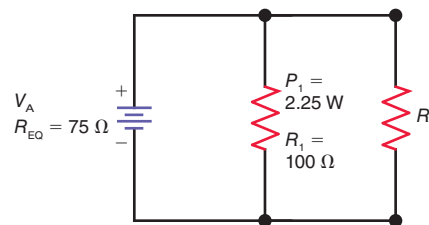

Figure 6-26
6.35 In Fig. 6-26, solve for V_A , I_1 , I_2 , R_2 , I_T , P_2 , and P_T .